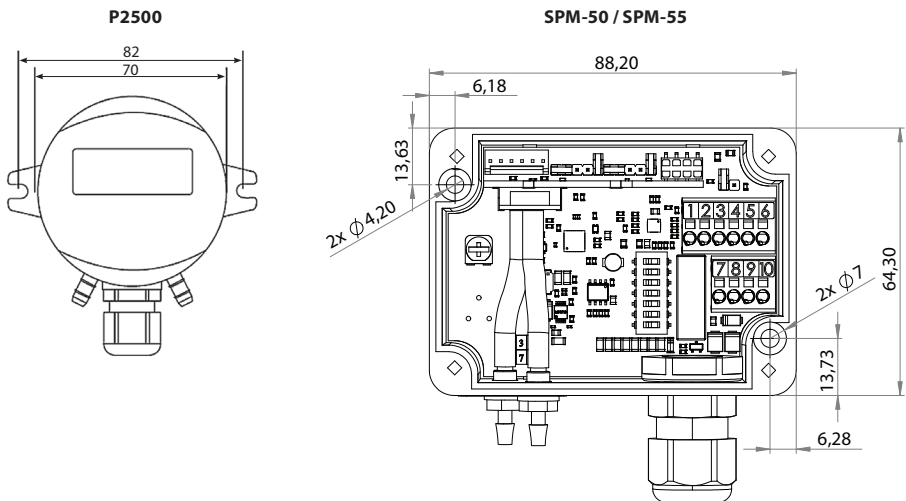

Fig. 1. Pressure sensors dimensions
- sensor is screwed directly to the duct (refer to figure 1).